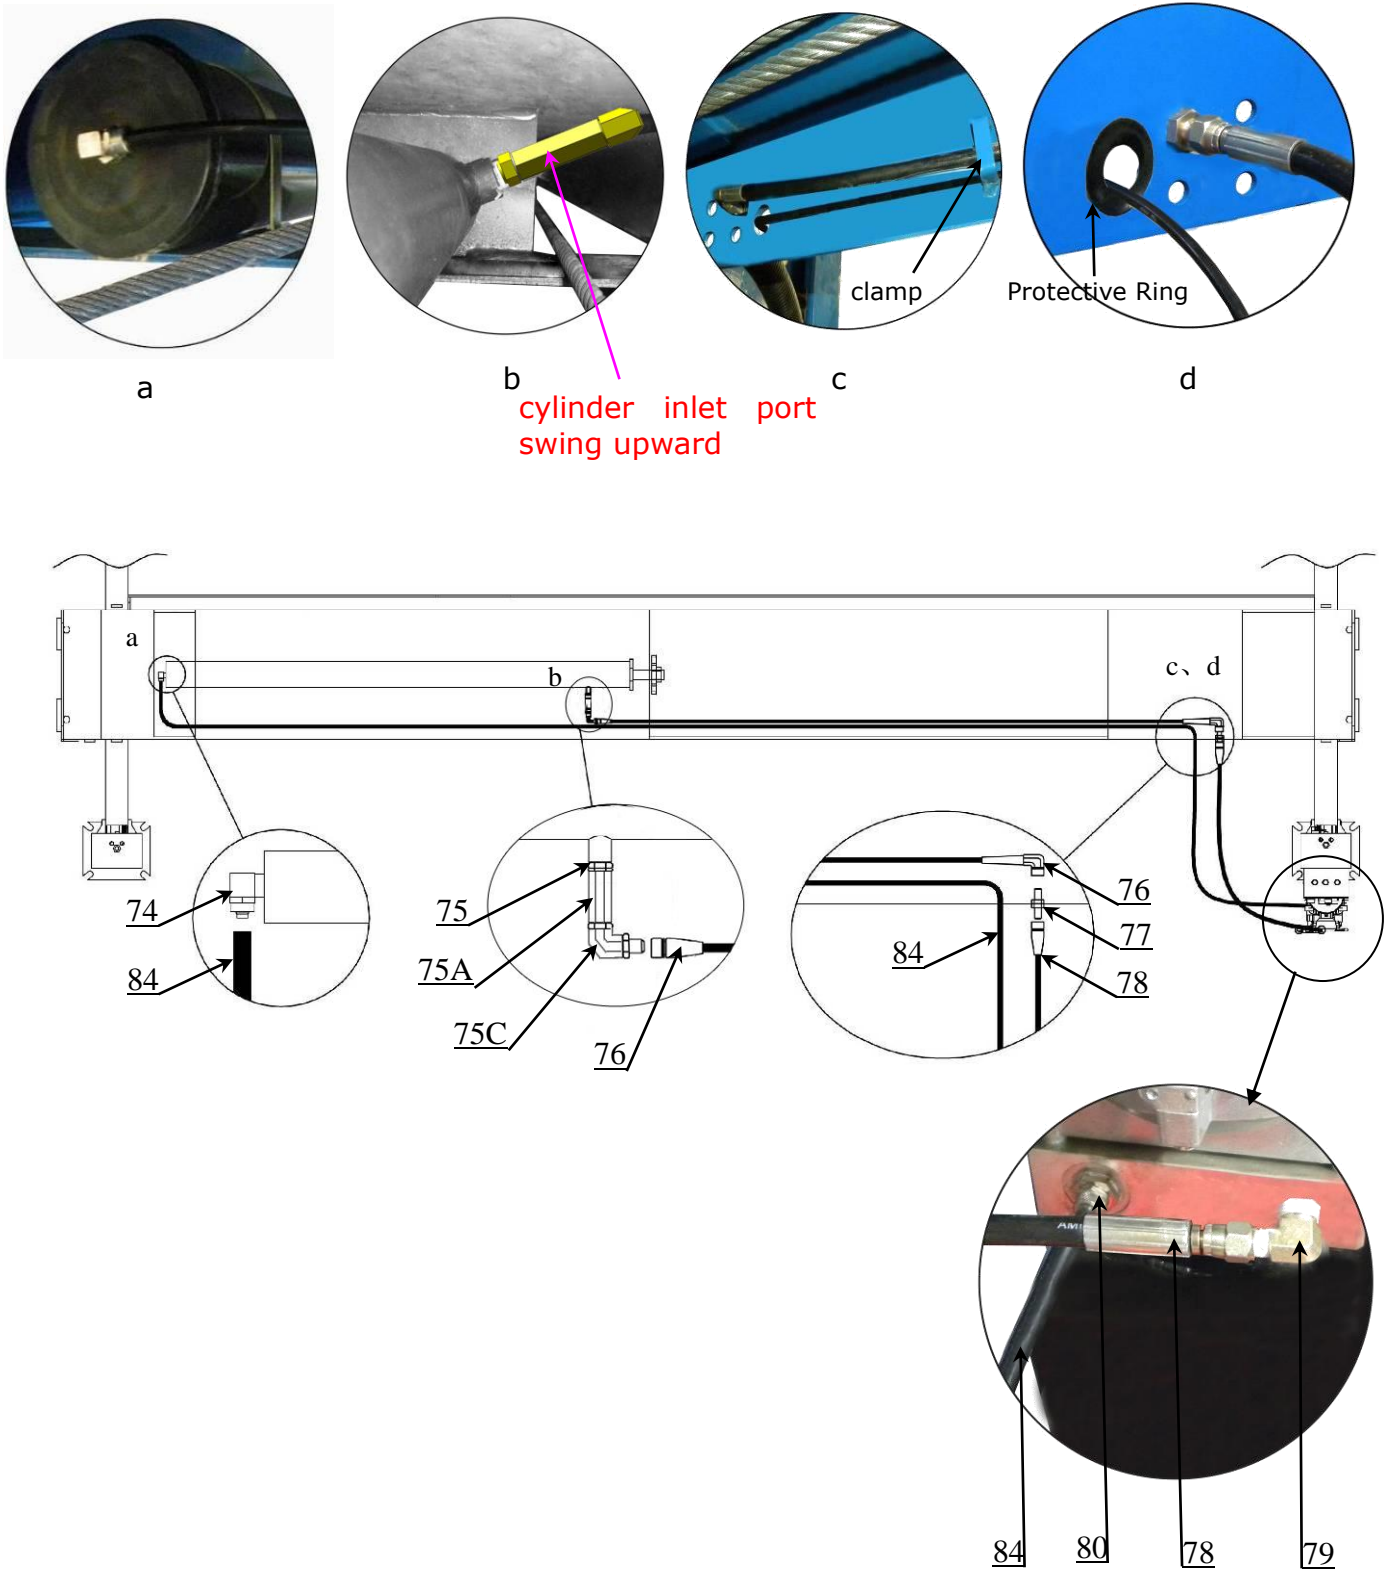

Fig. 25
L. Install hydraulic system (See Fig. 25).